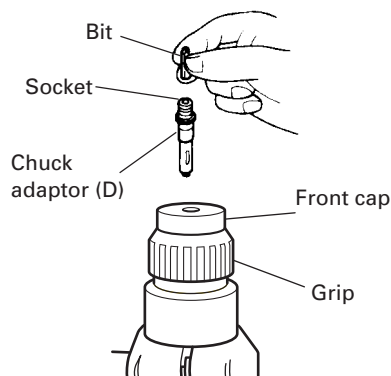

Fig. 9
4. When driving machine screws (Fig. 9)
- Do not attempt to use the rotary hammer in the rotation and striking function with chuck adaptor (D) and bit attached.
5. When driving wood screws (Fig. 9)